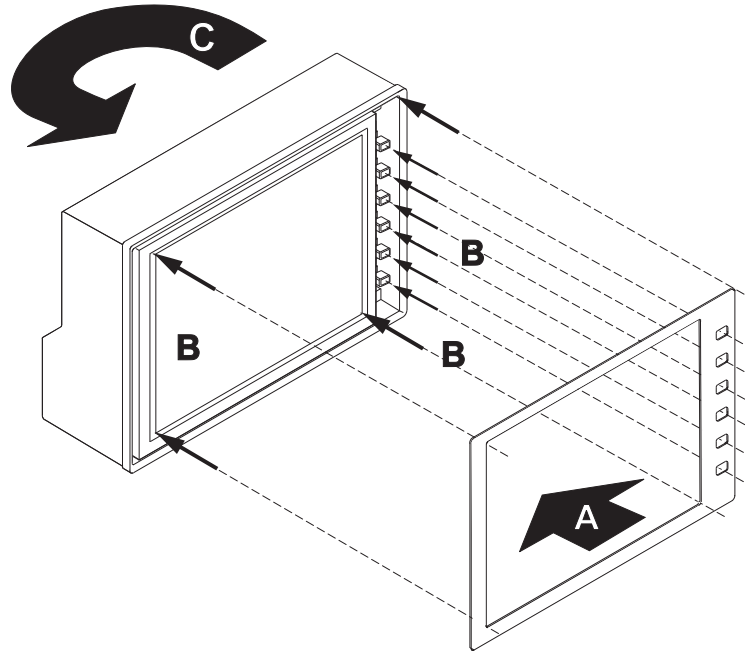

Fig. E 7-8: Placing and fastening the new scale
- Then take the new self-adhesive scale (spare part no. 167218) and remove its protective film from the rear side (A). The six small square holes of the scale must be placed exactly atop the six pushbuttons before fastening the scale (B). Carefully press the scale to the display. Avoid damage of the display or the pushbuttons! Then rotate the unit horizontally back to its previous direction (C). (Fig. E 7-8)